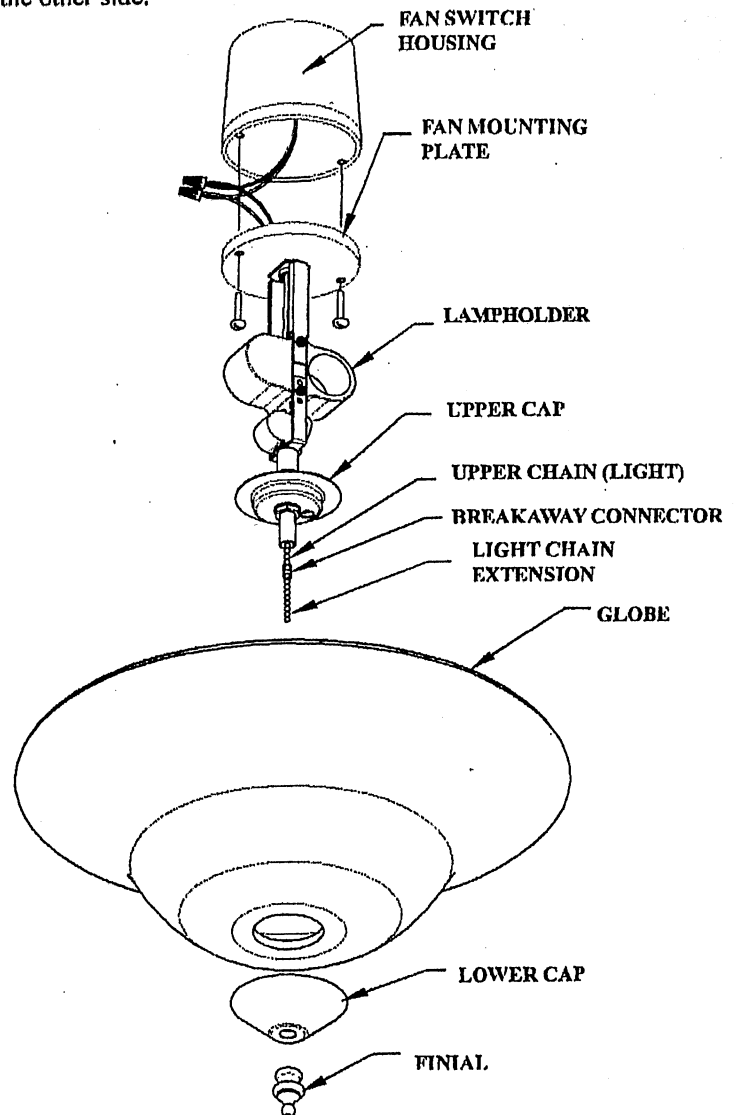

FIGURE 5
**NOTE:** Refer to Figures 5 and 6 for the steps below.